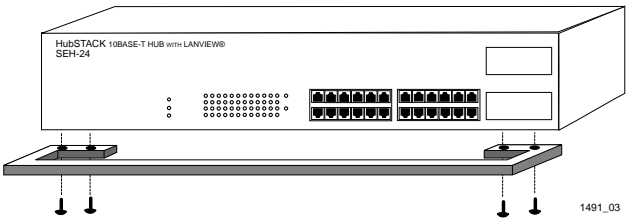

Figure 3-3. Attaching the Strain Relief
- 2. Attach the strain relief bracket to the bottom of the SEH (Figure 3-3).